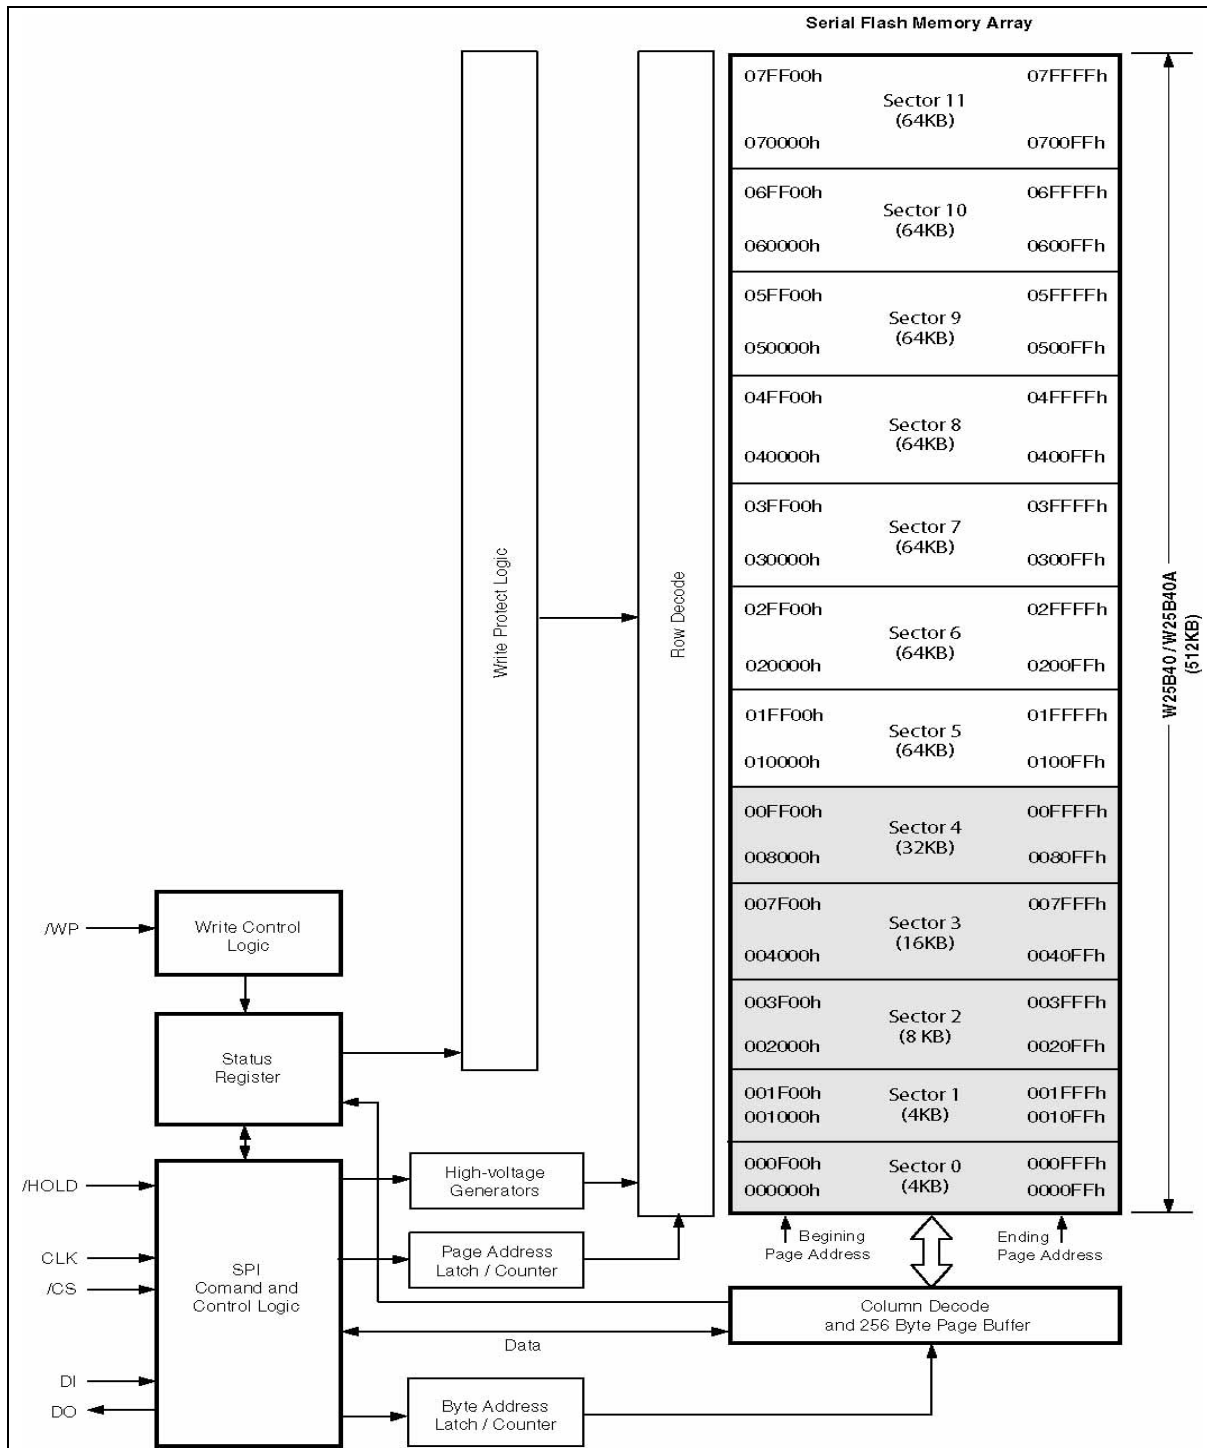

Figure 2a. W25B40 / W25B40A Block Diagram for Bottom Boot Sector Organization
- The W25B40 / W25B40A has twelve sectors instead of eight including: seven sectors of 64KB, one sector of 32KB, one sector of 16KB, one sector of 8KB and two sectors of 4KB. (see figure 2a and 2b)